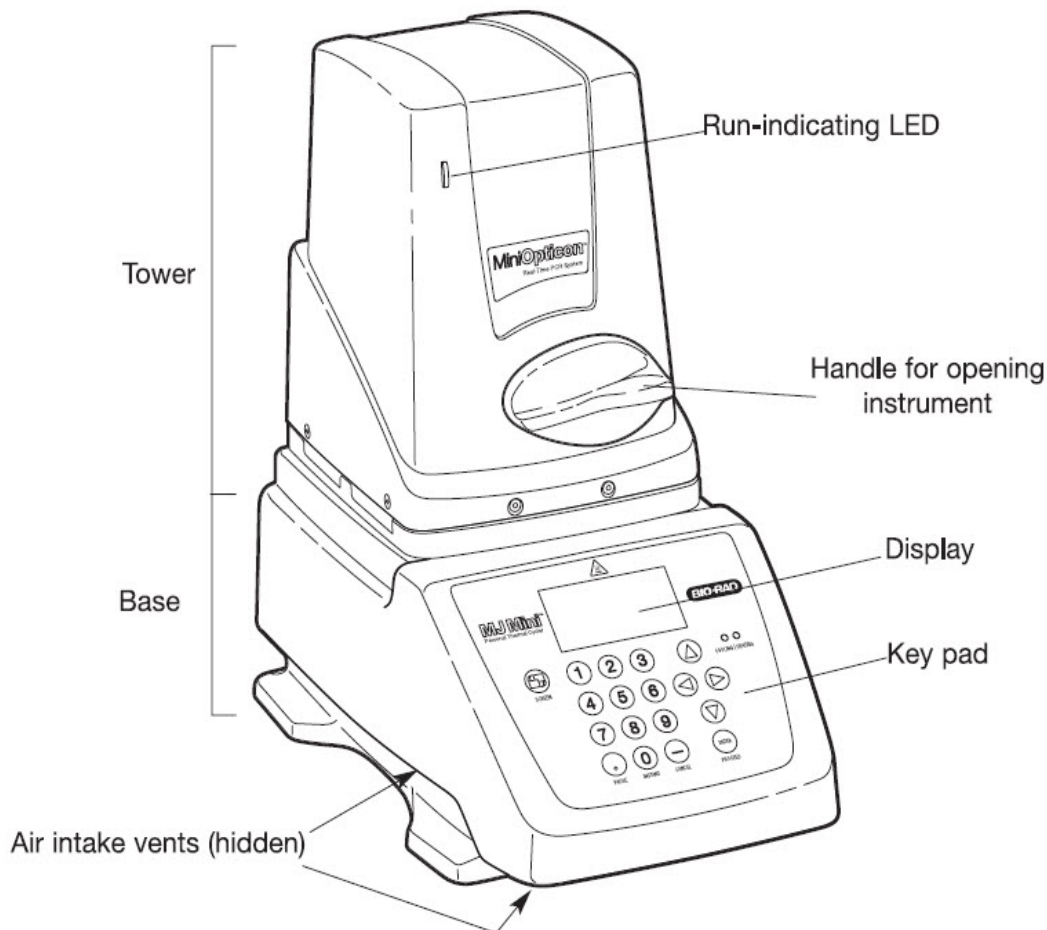

Figure 1. Front view of the MiniOpticon system.
The MiniOpticon system (Figure 1) includes:
4. To close the instrument, rotate the tower back into the closed position and then turn the green handle clockwise (Figure 1). Both the tower and the handle have spring mechanisms that facilitate closure.